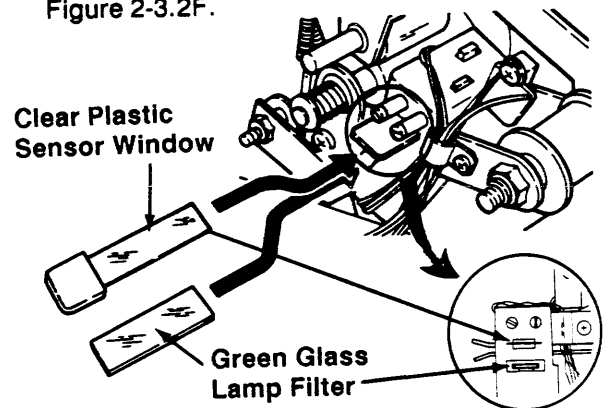

Figure 2-3.2F
- Install the green Glass Lamp Filter (Item 22). See Figure 2-3.2F.
- Install the clear plastic Sensor Window (Item 23) above the lamp filter. See Figure 2-3.2F.